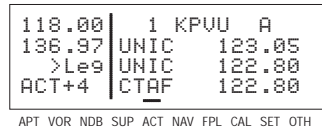

Figure 4-135
2. Once the desired waypoint is found, the right inner knob may be pushed back to the “in” position and rotated to display any of the other waypoint pages (figure 4-135).